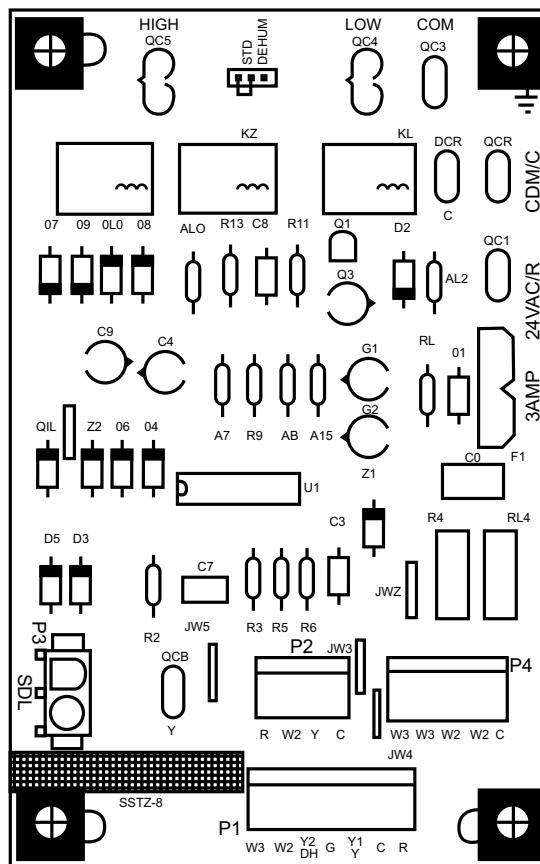

Fig. 24 – Interface Fan Board (IFB)
The cooling speed is marked "LOW" on the interface fan board (IFB) (See Fig. 24). The factory-shipped settings are noted in Table 6. There are 4 additional speed tap wires available for use in either electric heating or cooling (For color coding on the indoor fan motor leads, see Table 5). The additional 4 speed tap wires are shipped loose with vinyl caps and are located in the control box, near the interface fan board (IFB) (See Fig. 24).
2. Remove the current speed tap wire from the "LOW" terminal on the interface fan board (IFB) (See Fig. 24) and place vinyl cap over the connector on the wire.
1. Using Fig. 24, move the two pin DEHUM jumper from the "STD" position to the "DEHUM" position.
2. Remove fan speed tap wire from the "LOW" terminal on the interface fan board (IFB) (See Fig. 24).
1. Move the two pin DEHUM jumper located on control board (see Fig. 24) from the "STD" position to the "DEHUM" position.
When the DEHUM feature is not used, the continuous fan speed will be the same as cooling fan speed. When the DEHUM feature is used, the continuous fan will operate on IFB "LOW" speed when the DH control lead is not energized, or IFB "HIGH" speed when the DH lead is energized (see Fig. 24).